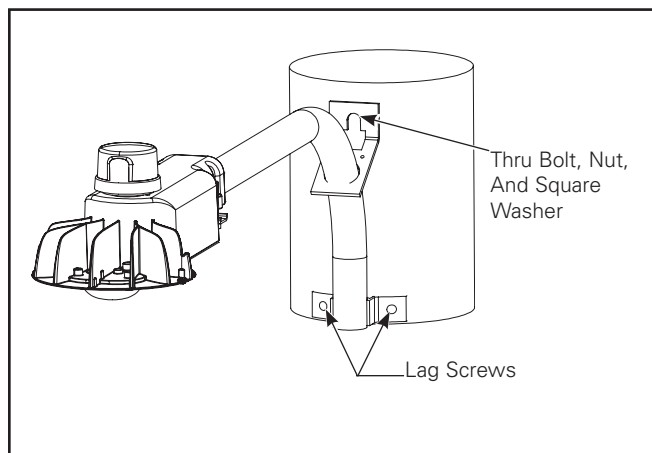

Figure 7.
8. Attach ground wire around bolt, assemble washer and nut and tighten with wrench. (Figure 7.)